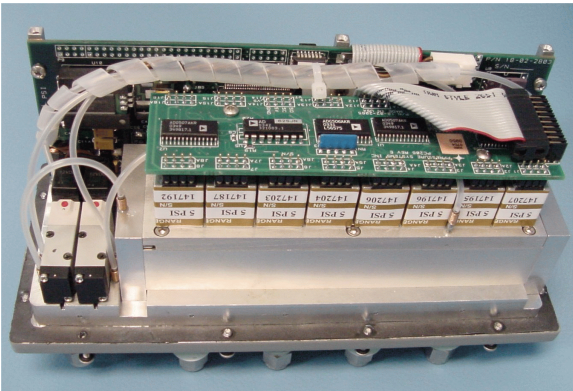

Figure 5.2
(1) Place the scanner with its external connectors facing up. With one hand holding the module housing, remove all screws securing the top plate to the module housing. These are located around the outer edge of the top panel of the module housing. For 9021 scanners these will be six (6) 4-40 Allen-head screws which require a 3/32" Allen driver (for 9022 scanners, there are twelve (12) Phillips-head screws). The 9016 uses twelve (12) Phillips head screws around the top plate outside perimeter.
(2) When all screws have been removed, gently lift the top panel and attached electronics up and out of the housing. All components of the pressure scanner are attached to the top plate and will lift out of the module housing when the top plate is removed. See **Figure 5.2** and **5.2a**. Carefully remove the Viton gasket with the module top plate. In some cases, it may be easier to hold the top plate and turn the module over, lifting the housing off the top panel.